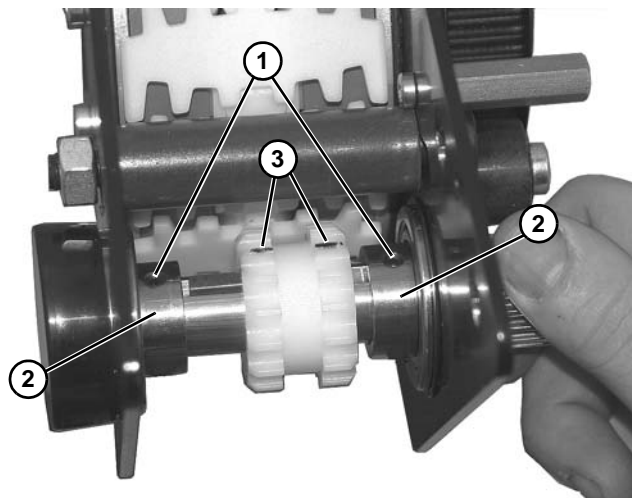

Figure 166
14. Loosen two set screws (Figure 166, item 1) on two bearings (Figure 166, item 2).
15. Loosen sprocket set screws (Figure 166, item 3).